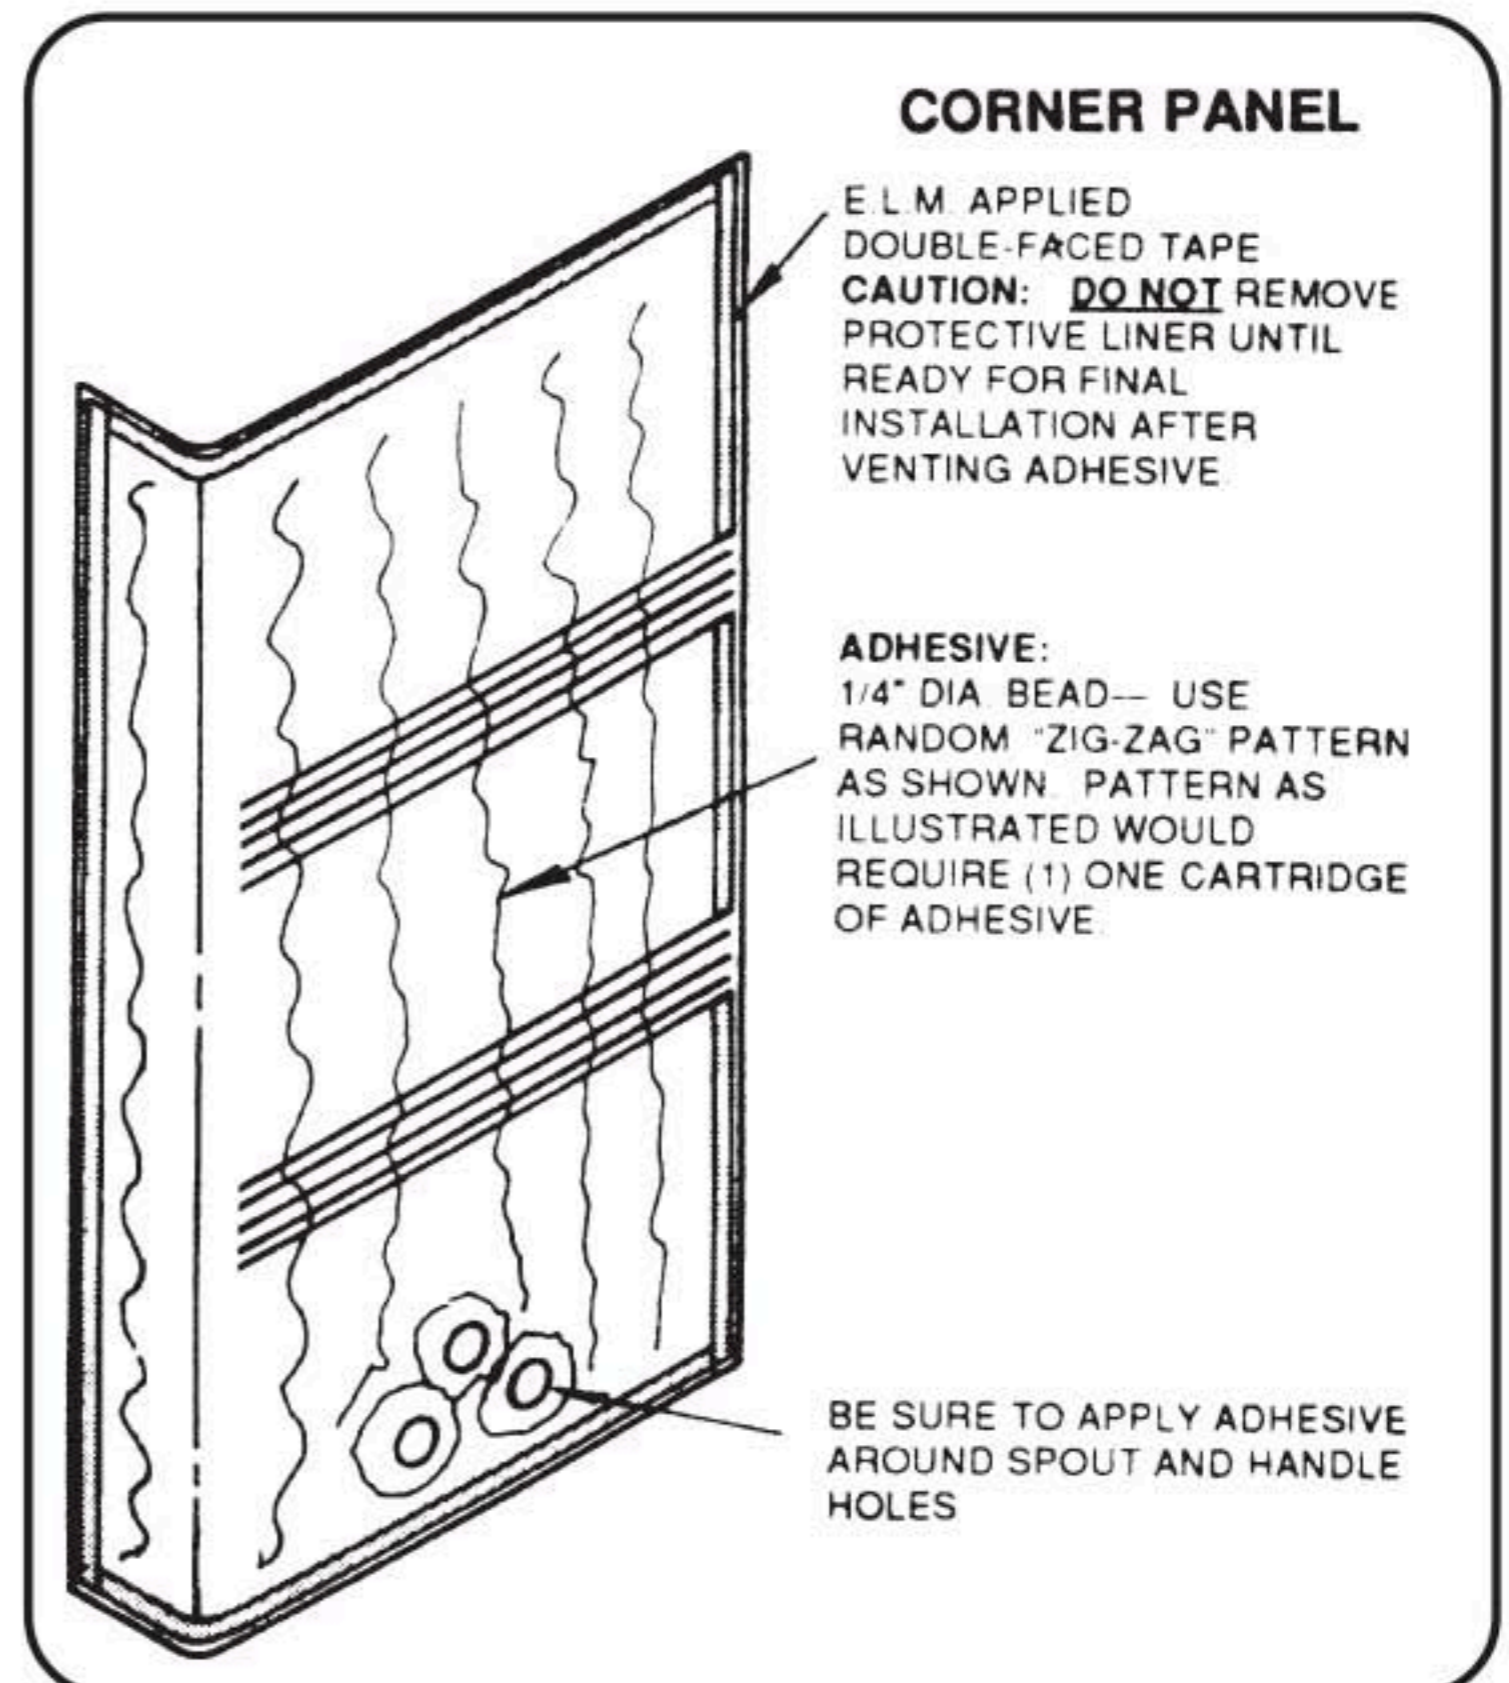

FIG. 4.
**Adhesive Pattern:** Apply a 1/4" bead of adhesive to the back side of one of the **Corner Panels**. Use a random "Zig-Zag" pattern. Do not apply adhesive to outer edges. Follow ADHESIVE NOTE/ VENTING METHOD. **NOTE:** You may use large head diameter tacks or "Roofing" style nails to hold panels in place, giving adhesive time to cure. Place body of nails along side edge of panel and press or tap in place. Be careful not to damage edge of panel- installing or removing nails. Clean any excess adhesive immediately with mineral spirits, then wash with a soap water solution. Follow same procedure for remaining **Corner Panel**. (FIG. 4.)